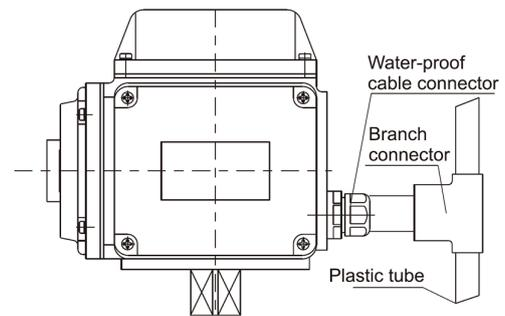

Fig. 1
- Refer to Fig. 1 when installing conduit pipes.